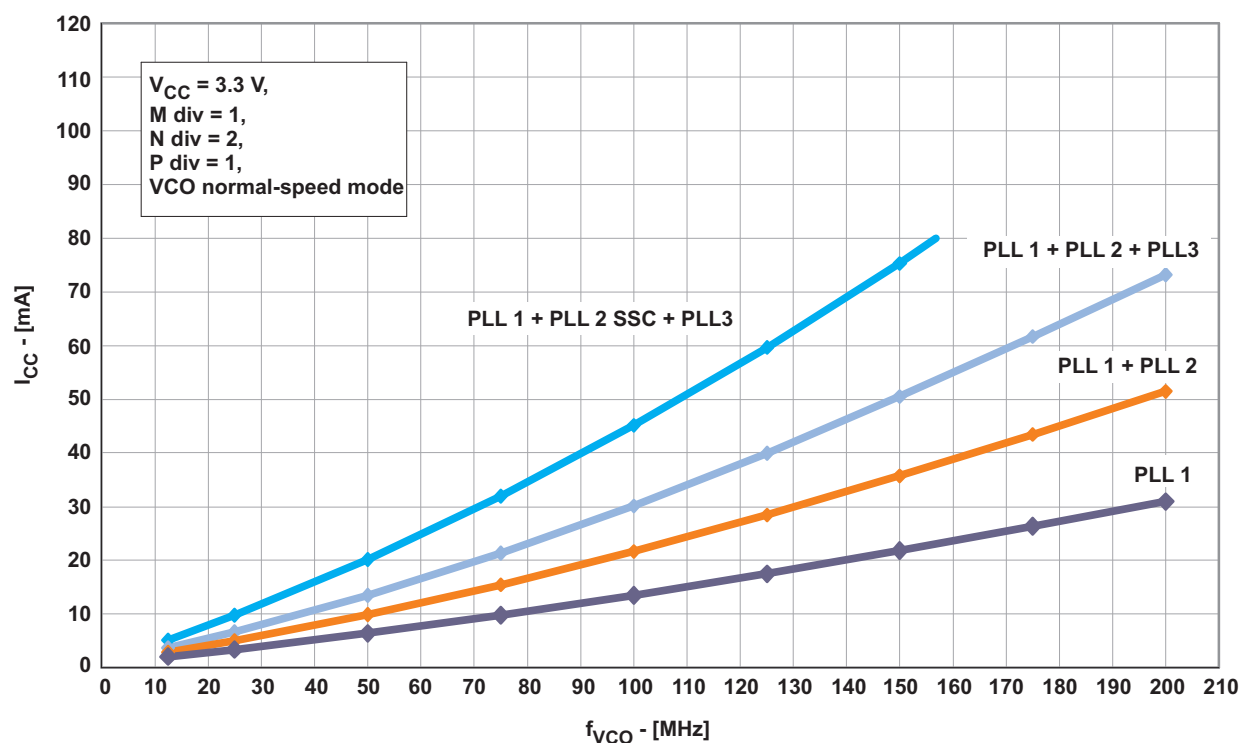
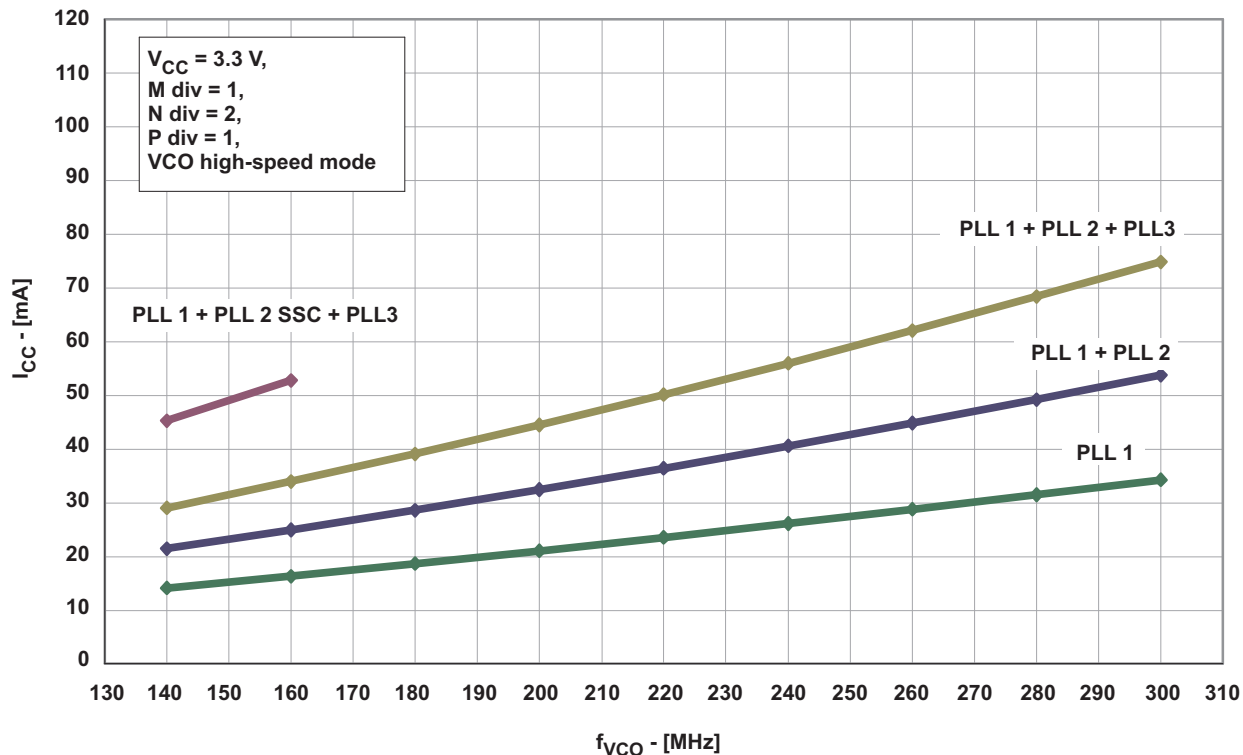
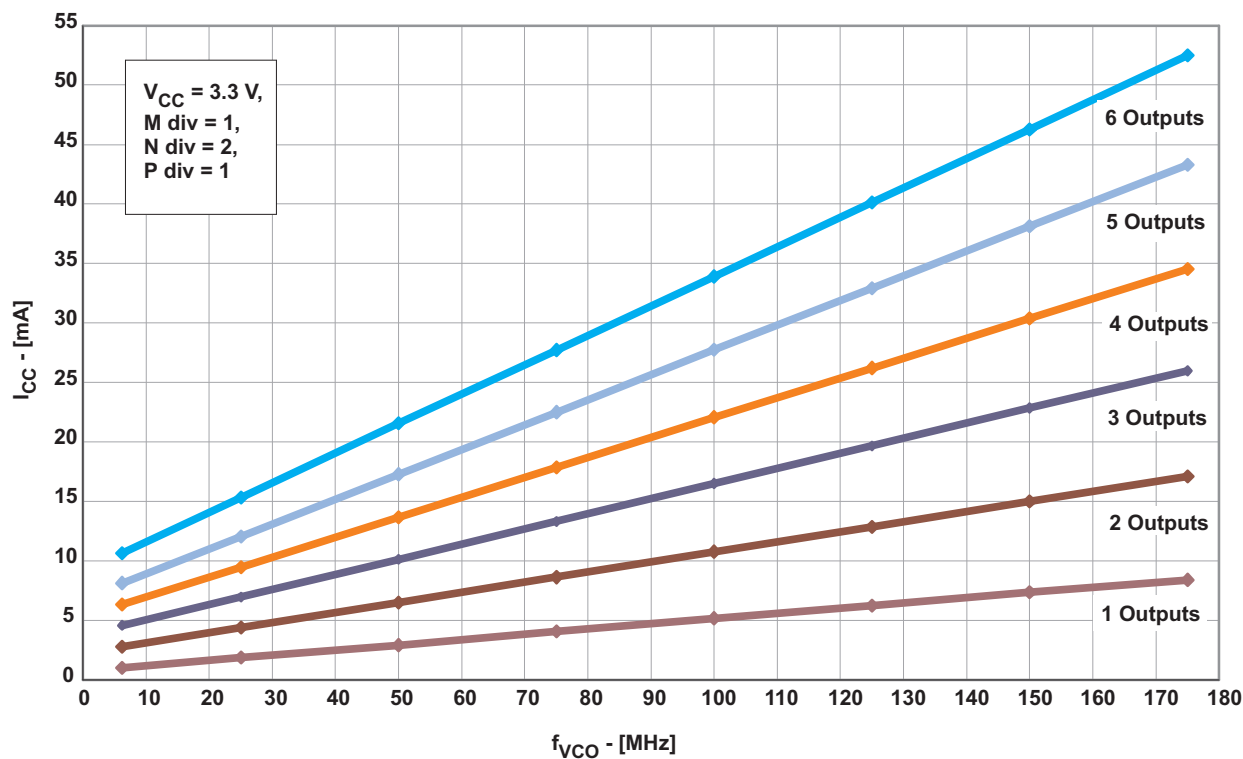
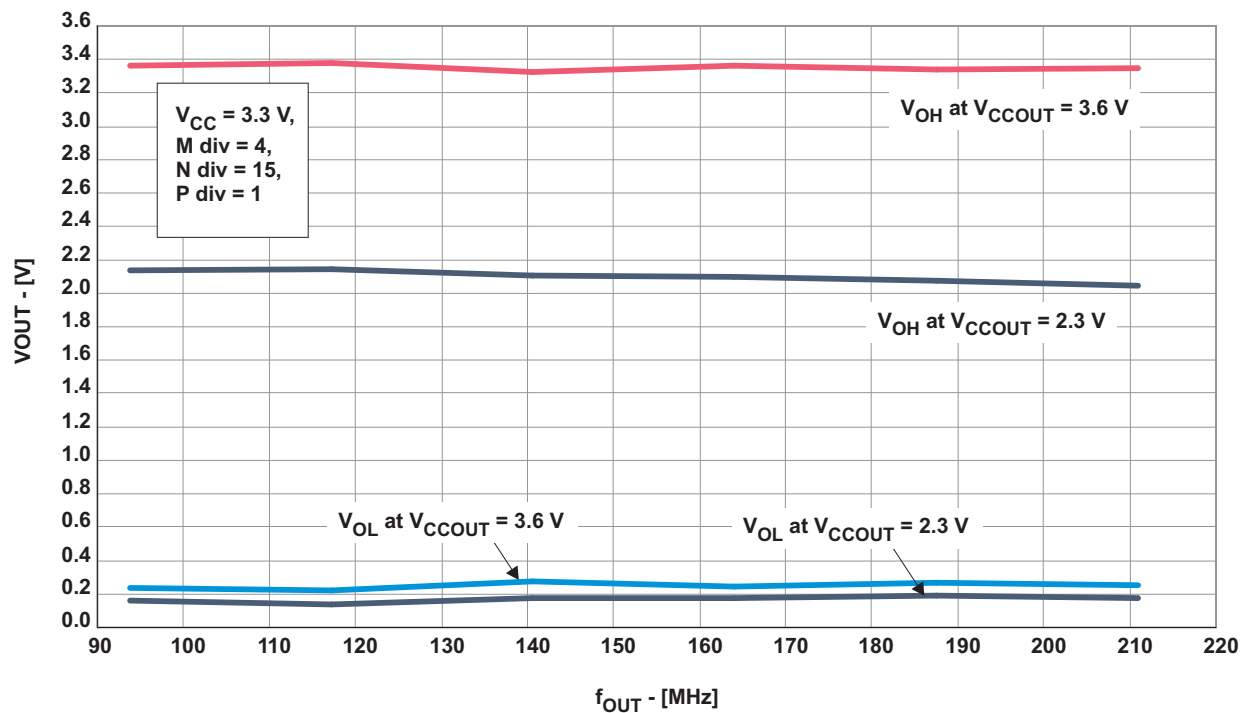

Figure 2. I_{CC} vs Number of PLLs and VCO Frequency (VCO at Normal-Speed Mode, Byte 6 Bit [7:5])
Figure 3. I_{CC} vs Number of PLLs and VCO Frequency (VCO at High-Speed Mode, Byte 6 Bit [7:5])
Figure 4. I_{CCOUT} vs Number of Outputs and VCO Frequency
Figure 5. Output Swing vs Output Frequency
(1) All typical values are at respective nominal V_{CC} .
(2) For calculating total supply current, add the current from Figure 2, Figure 3, and Figure 4. Using high-speed mode of the VCO reduces the current consumption significantly. See Figure 3.
(3) Normal-speed mode or high-speed mode must be selected by the VCO frequency selection bit in Byte 6, Bit [7:5]. The min $f_{(VCO)}$ can be lower but impacts jitter-performance.
(4) The maximum output frequency may be exceeded, but specifications under the Recommended Operating Condition may change and are no longer assured. Do not exceed the maximum power dissipation of the 20-pin TSSOP package (600 mW at no air flow). See Figure 5.
(5) 50000 cycles.
(6) Jitter depends on configuration. Jitter data is for normal t_r/t_f , input frequency = 27 MHz, $f_{(VCO)} = 147$ MHz output.
(7) The $t_{sk(o)}$ specification is only valid for equal loading of all outputs.